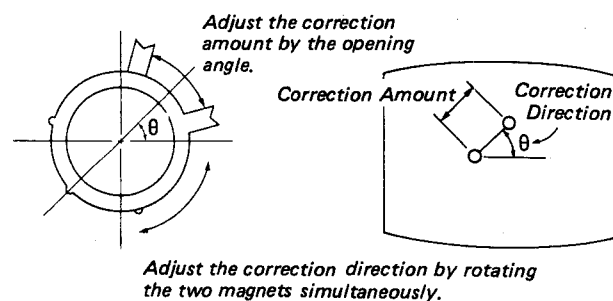

Fig. 3-8
5. Overlap the R and B-G dots in horizontal and vertical directions in the center of the picture using the HMC and VMC magnets (6-pole ring magnets). Adjust the correction amounts of the R and B-G dots by the opening angle of the magnets. Adjust the direction by rotating the two magnets simultaneously. (See Fig. 3-8.)